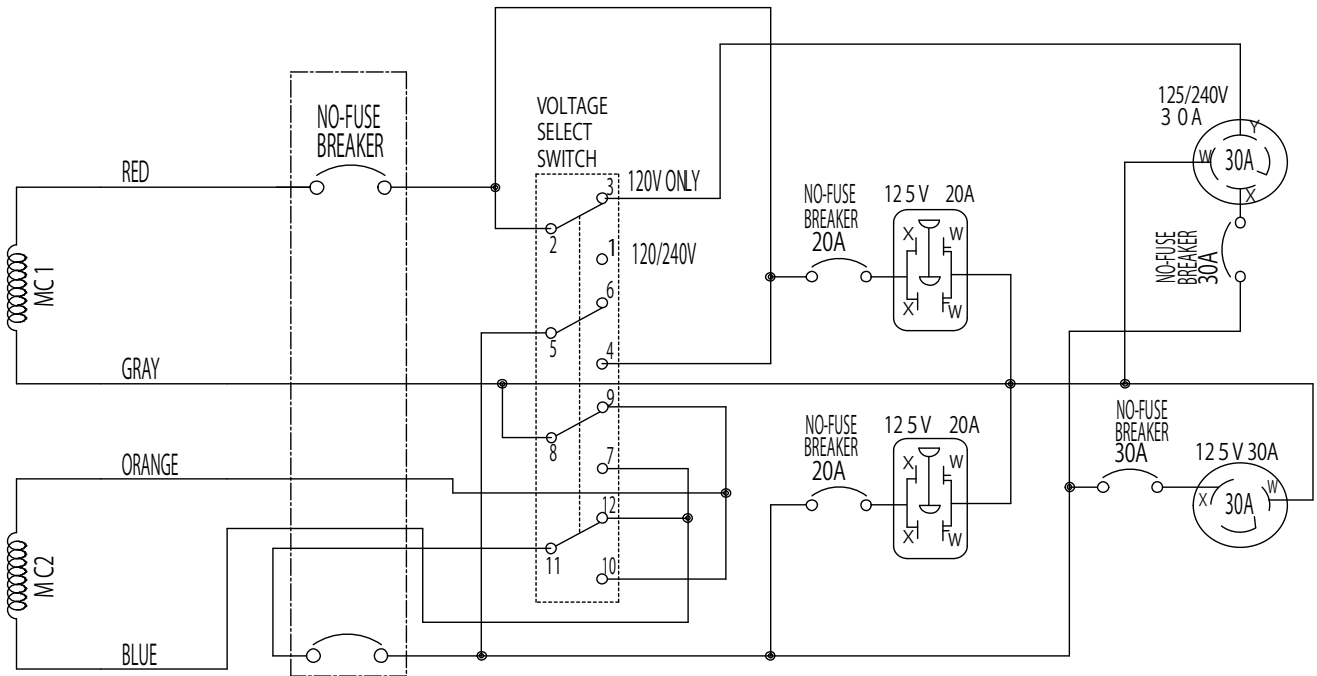
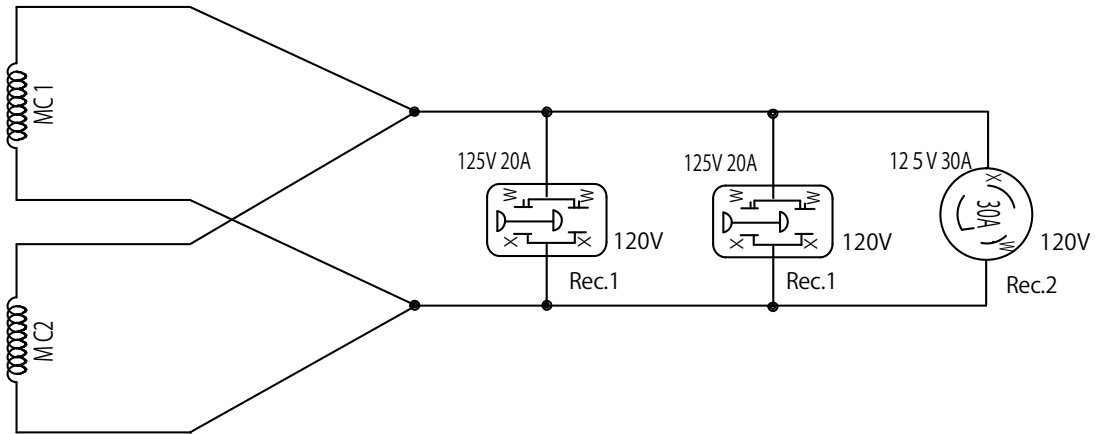

Figure 2-4: Voltage selector Switch Circuit Diagram
Figure 2-5: VOLTAGE SELECTOR Switch Set for Single-Voltage Output
- (3) Voltage selector Switch (Dual Voltage Type) (refer to Figure 2-4)
- (d) Refer to Figure 2-5 for a simplified diagram of the circuit. The two main coils are shown in parallel. In this case, the higher voltage (240V) at Receptacle (Rec.3) is not available. Rec. 2 for the lower voltage is available up to the rated power (up to 30A if the rated current is over 30A), and Rec. 1 is available up to 15A. When the Voltage selector switch is set for double voltage indication (120 V or 120V/240V), the switch position is indicated by the upper dotted line in Figure 2-4.